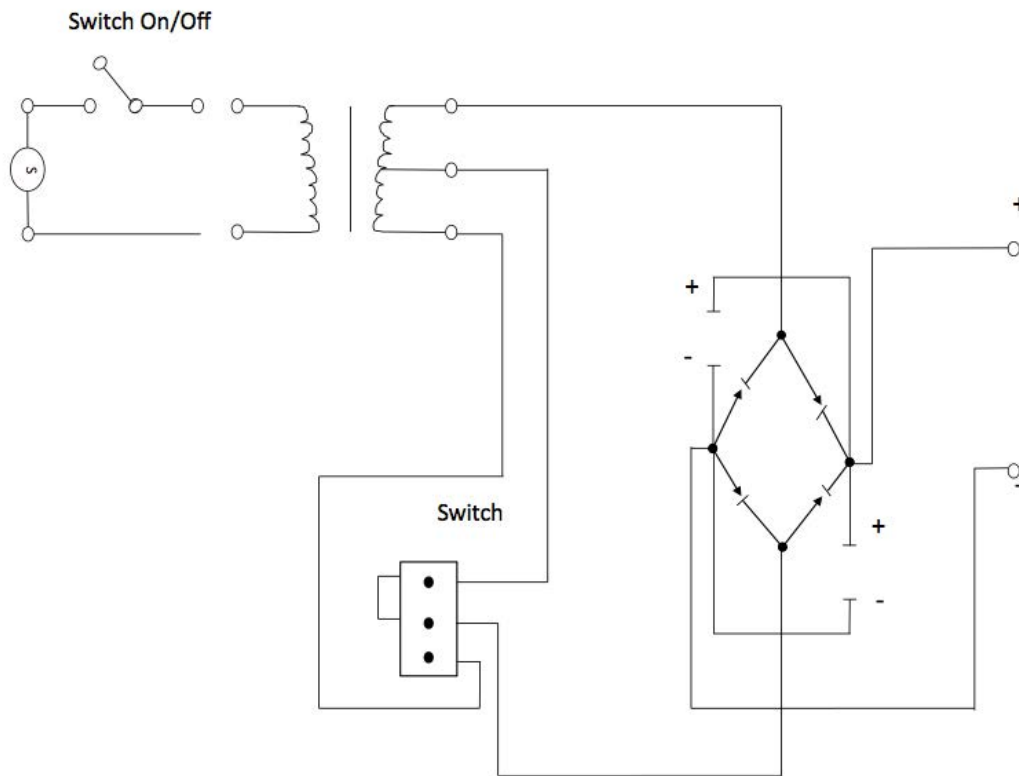

Figure 3: Circuit Diagram
3) The Hammond Manufacturing Transformer (115 VAC 100VCT 0.5A) and electronic components were configured to the Padboard according to the circuit diagram (Figure 3). All electronic components, wiring and circuit board connections were soldered using a standard soldering iron (Standard Soldering Iron 60W Pencil Tip) and solder. With this current configuration it was imperative that only 110V AC inlet power be supplied to the transformer. Any current above this